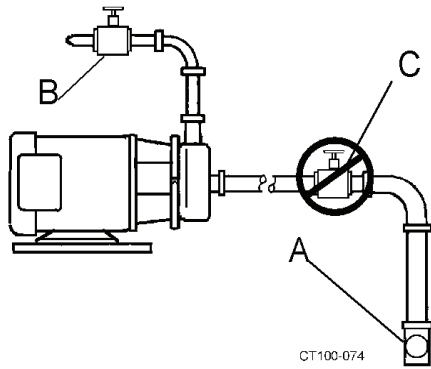

Figure 18 - Valve Piping Installation
12. This pump is not self priming. If the pump is installed above the supply liquid level, install a foot valve or other system check valve to keep the system flooded for priming. (Figure 18, item A).
13. A throttling valve may be required to control the pump flow rate to prevent motor overload. Always install a throttling valve (Figure 18, item B) in the discharge piping, at least 10 pipe diameters from the pump outlet.
CAUTION: Never install throttling valve in the supply piping. (Figure 18, item C).